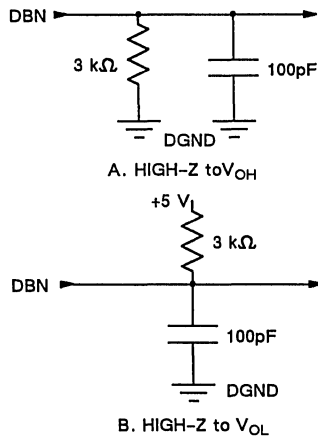

Figure 1. Load Circuits for Data Access Time Test
- Measured with load circuits of Figure 1 and defined as the time required for an output to cross 0.8 V or 2.4 V.